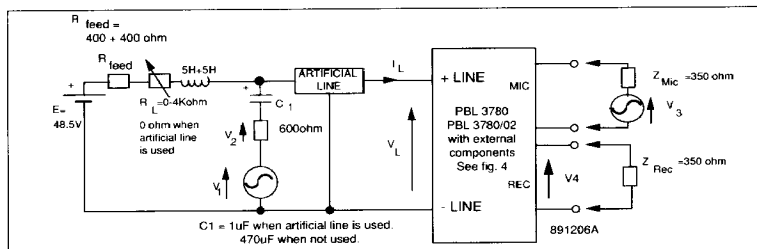

Figure 2. Test Circuit.
**Maximum Ratings (Ref. figure 2)**
TAmb = 25 °C. Measured using test circuits of fig. 2 and 3 without artificial cable, unless otherwise noted.